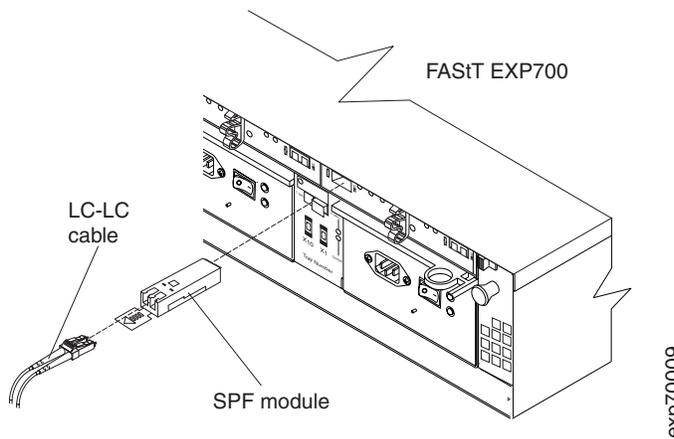

Figure 50. Installing an SFP module and connecting an LC-LC cable to the storage expansion unit
3. Install an SFP module in the SFP port on the back of the storage expansion unit; then, connect the other end of the LC-LC cable into the SFP module, as shown Figure 50.